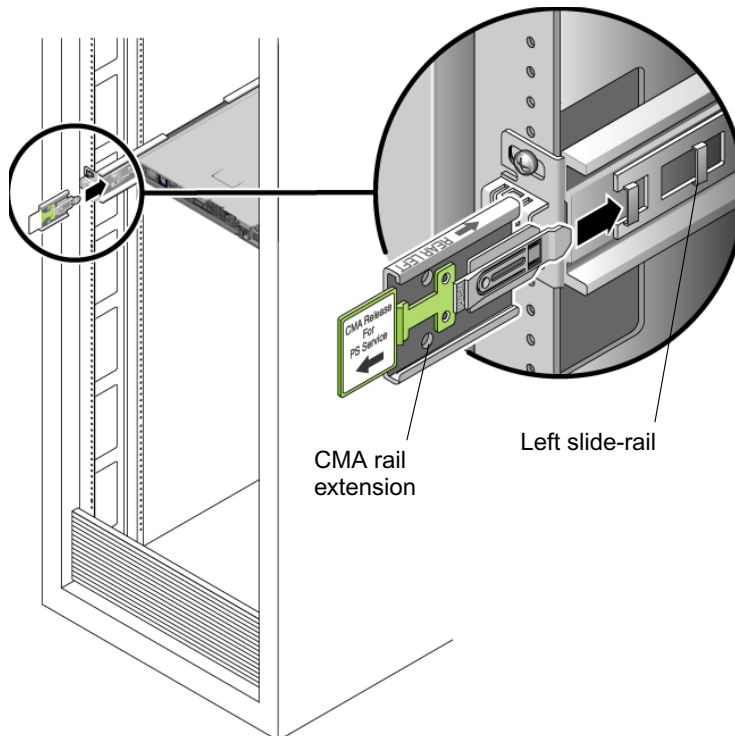

FIGURE C-7 Inserting the CMA Rail Extension Into the Back of the Left Slide Rail
3. Locate the CMA rail extension and insert it into the left slide rail until the extension locks into place with an audible click. (See FIGURE C-7.)